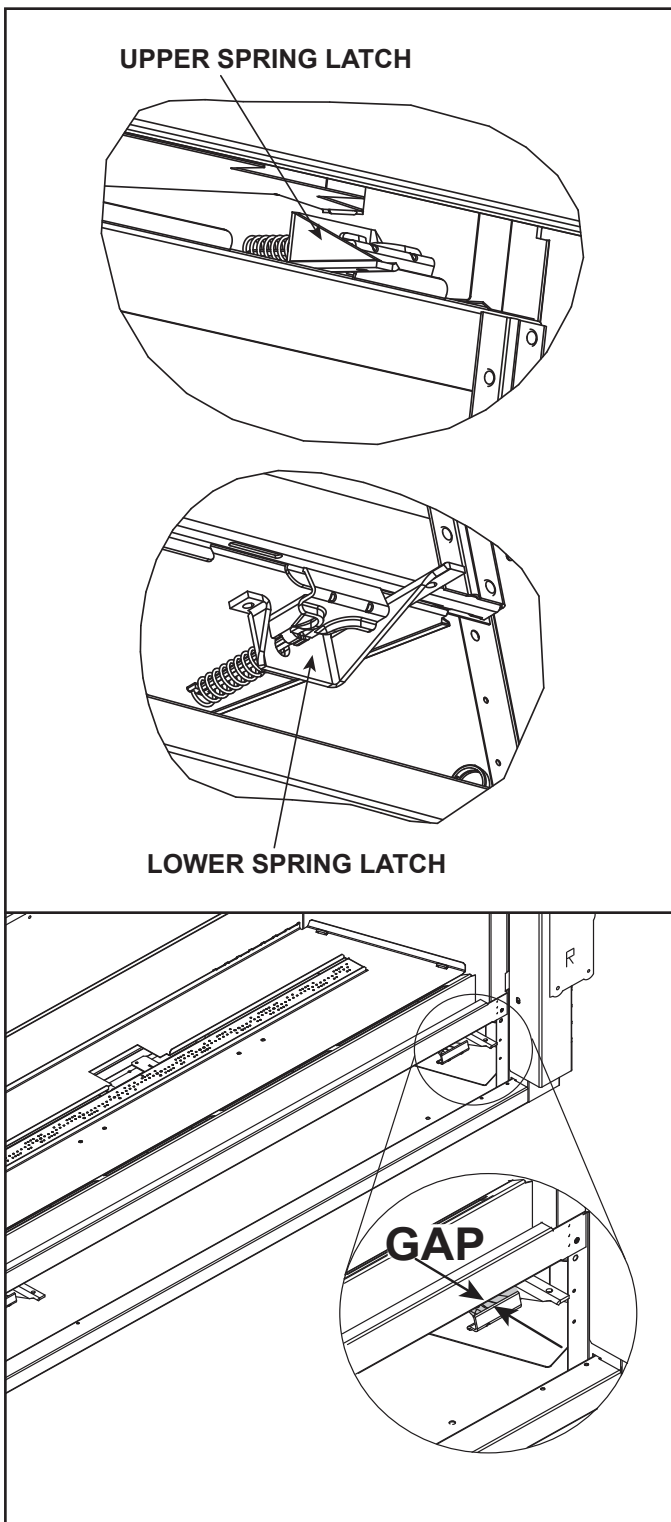

Figure 11.3 Fixed Glass Assembly
**Note:** Observe the presence of a space or gap between the glass latch and the front of the appliance where the bottom of the glass assembly is positioned. This gap is designed for positive placement when replacing the glass assembly. See Figure 11.3.
The bottom glass latches have been designed to create a small gap between the glass clip and the face of the appliance. See Figure 11.3.